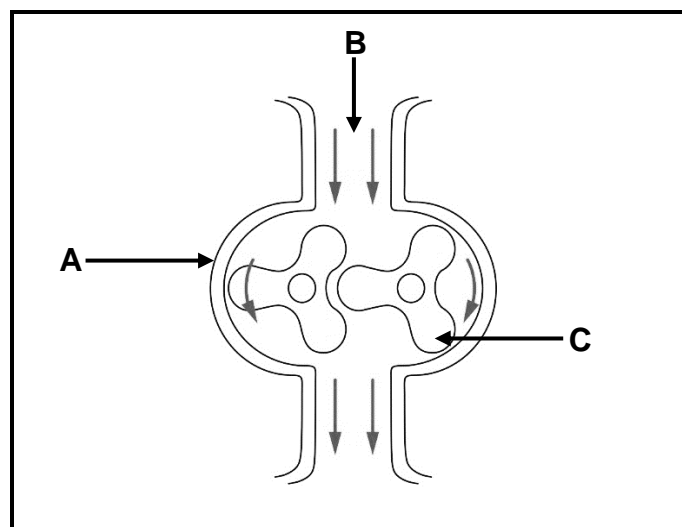

FIGURE 6.5
- 6.5 FIGURE 6.5 below shows a Roots supercharger. Answer the questions that follow.
- 6.5.1 Label components **A–C** in FIGURE 6.5 above. (3)